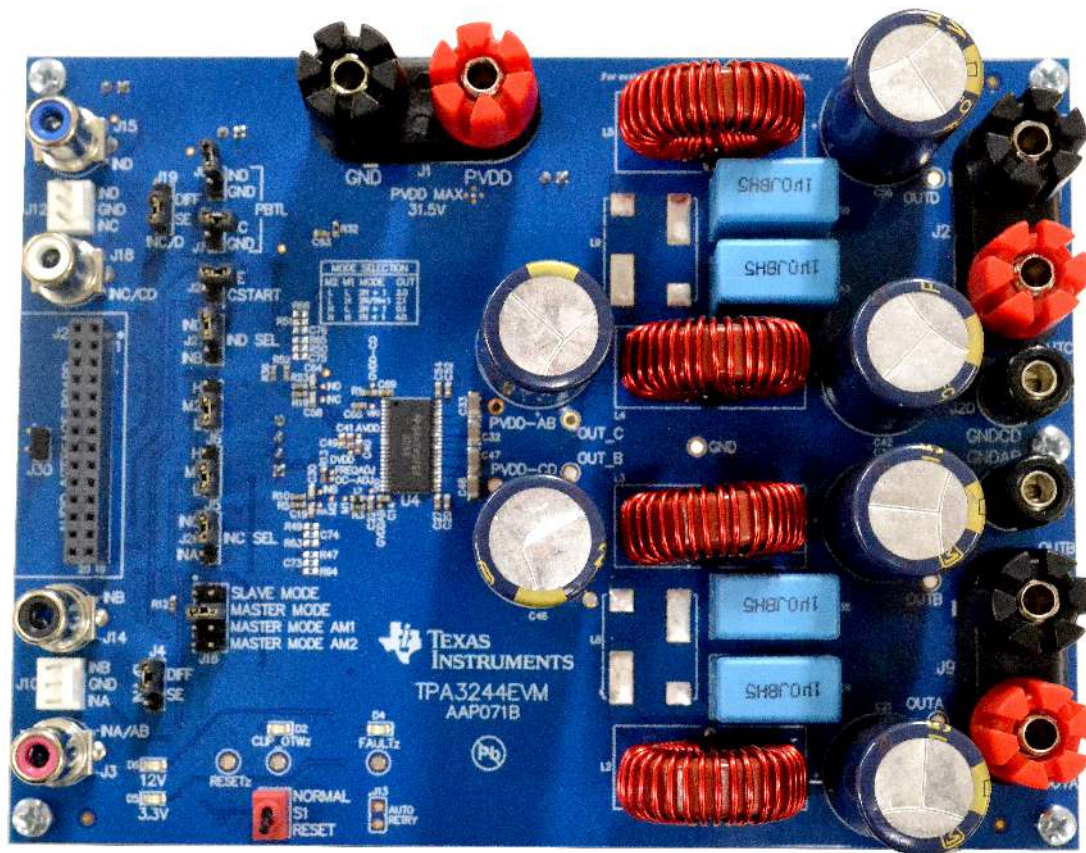

Figure 1. TPA3244EVM
- Check that jumpers are in their default state as shown in Figure 1 and Table 3 for stereo **BTL** operation: